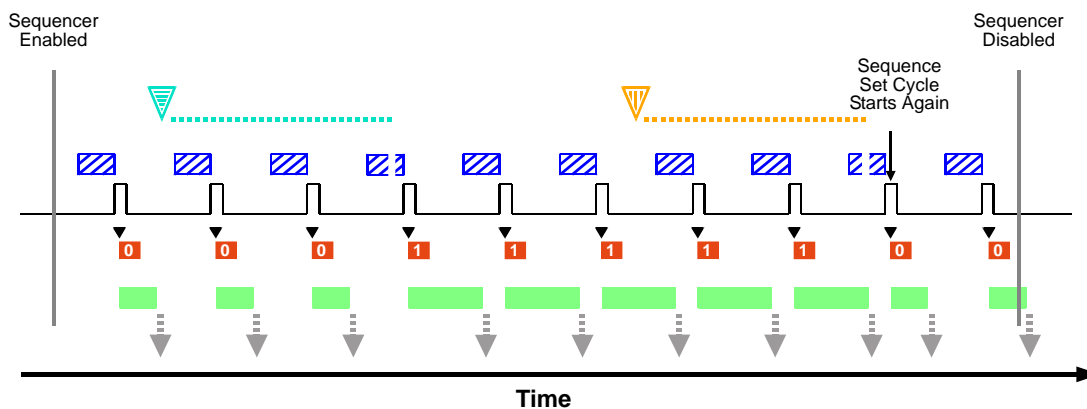

Fig. 90: Sequencer in Controlled Sequence Advance Mode with Disabled as the Sequence Control Source and Asynchronous Advance and Restart
The following use case (see also Figure 90) illustrates the operation of the sequencer in controlled sequence advance mode with Disabled selected as the sequence control source. Sequence set advance proceeds in ascending sequence set index numbers subject to asynchronous advance commands. After one sequence set cycle is complete, another one starts. Sequence set cycle restarts are subject to asynchronous restart commands.
- When the AsyncAdvance command becomes effective, the camera happens to be in "waiting for frame start trigger" status. The parameter values of the next sequence set, i.e. of sequence set 1, are loaded into the active set. Note that the camera briefly exits the "waiting for frame start trigger" status while the parameter values of sequence set 1 are loaded into the active set (see also Figure 90).
- When the AsyncRestart command becomes effective, the camera happens to be in "waiting for frame start trigger" status. The parameter values of sequence set 0 are loaded into the active set. Note that the camera briefly exits the "waiting for frame start trigger" status while the parameter values of sequence set 1 are loaded into the active set (see also Figure 90).